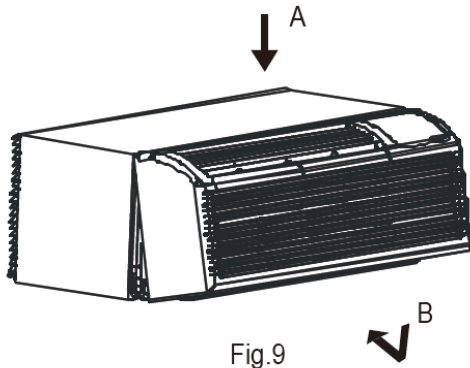

Fig.9
- Reinstall front panel.(See Fig.9)